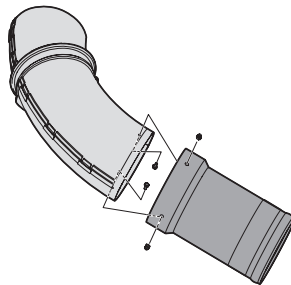

Figure 23
4. Install the upper chute tube into the wide end of the extension tube and secure the tubes together using two hex screws (710-3013) and cap lock nuts (712-0442). See Figure 23.